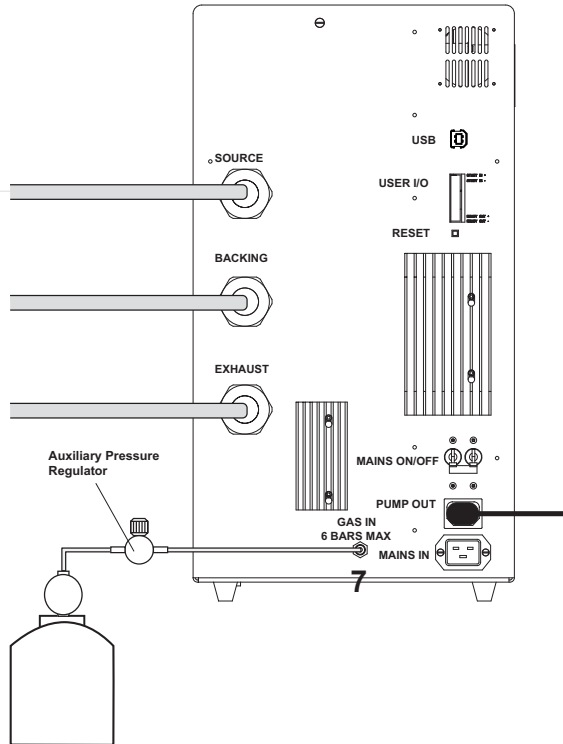

Figure 1-11. Source nitrogen connections
7. Connect the other end of the 4 mm OD PTFE tubing to the inlet marked **GAS IN** on the rear of the MSQ system (see **Connection 7** in Figure 1-11).
1. Plug the 3-pin IEC socket into the MSQ port marked MAINS IN on the rear of the MSQ (see **Connection 8** in Figure 1-11).